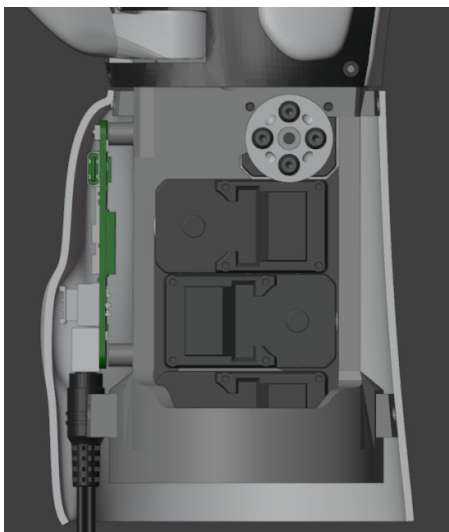

Figure 5.76: Skeleton - Front lower cover area
4. Position the pins on one side of the front cover onto the corresponding interlocking holes on the skeleton, snap them into place, then, while rotating the cover, snap the pins on the other side into place. See figures 5.76 and 5.77.